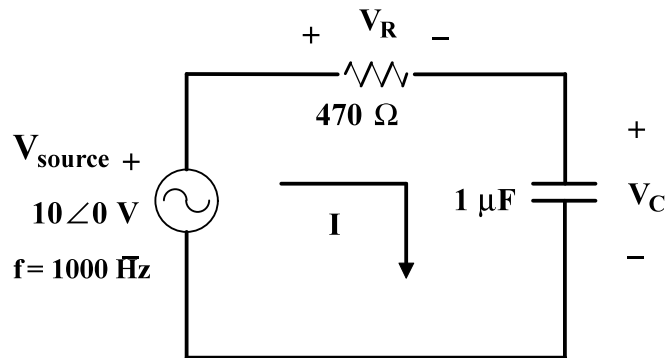

Figure 4.23 Circuit for Part 3LE.
- (a) Connect (build) the circuit shown in Figure 4.23
- (c) Construct a small table showing the calculated and measured voltages for the  $RC$  and  $RLC$  circuits of Figures 4.23, and 4.24, respectively.